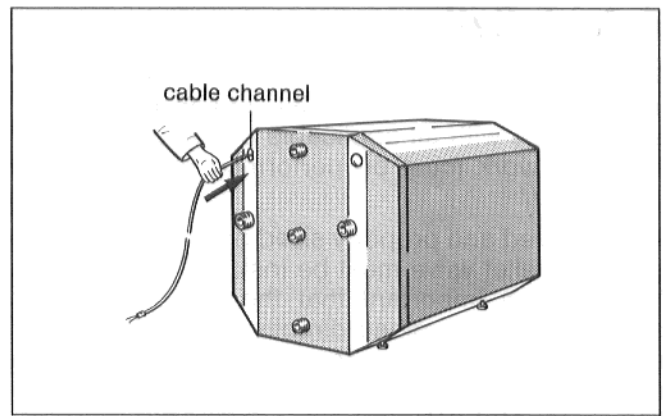

Fig. 6
- Insert domestic hot water sensor* into the cable channel from the rear of the storage tank (Fig. 6).